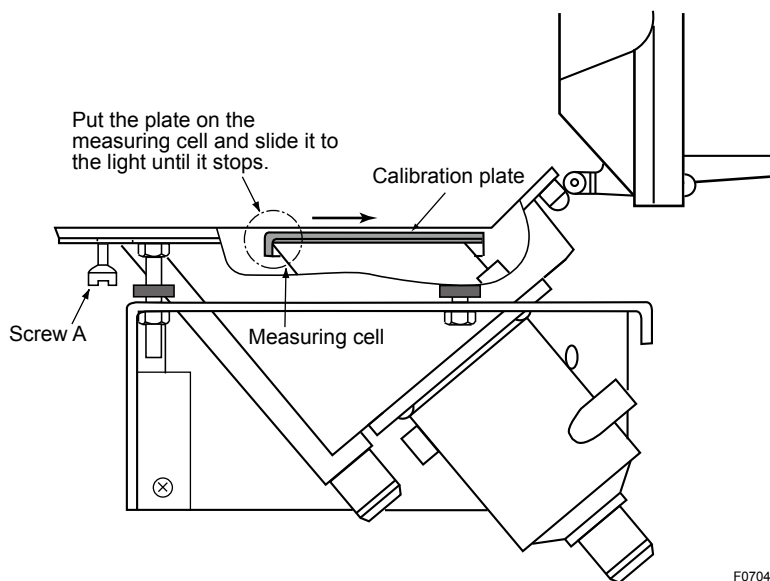

Figure 7.3 Setting Calibration Plate
- (1) Select FUNCTION "D." in the <PROGRAM1> mode and confirm that "ON" is displayed. "ON" means calibration using the calibration plate ("ON" is set up upon shipment from the factory).
- (2) Select FUNCTION "4" in the <MAINT.> mode. => "Turbidity value" is displayed.
- (3) Drain the measuring water in the detector (for the valve statuses when draining, see Table 6.15).
- (4) Loosen screw A under the detector cover and open the detector (see Figure 7.3).
- (5) Set the calibration plate housed in the upper inside part of the converter as shown in Figure 7.3. If the calibration plate is dirty, wipe the part its surface used for light scattering (the glossy part in the center of the plate) with the attached silicone cloth. In doing this, take care not to scratch the surface. Also, do not clean it with a solvent such as alcohol (but clean it with a detergent).
- (6) Shut the detector and tighten screw A.
- (7) Wait until the reading becomes stable and press the [ENT], [>], and [ENT] keys in this order. Now calibration is over.
- (8) Open the detector again and remove the calibration plate and then shut the detector and tighten screw A.
- (9) Take care not to let the calibration plate dirty, house it in the converter.
- (10) Finished.